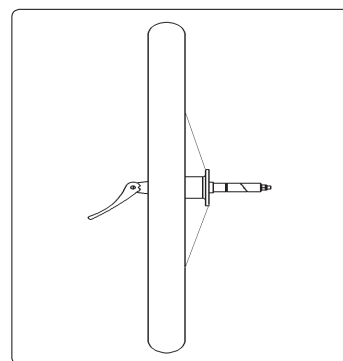

FIGURE 1: Quick release lever in unlocked "open" position (Top View)
1. Insert wheel axle assembly completely into trailer axle. **FIGURE 1**